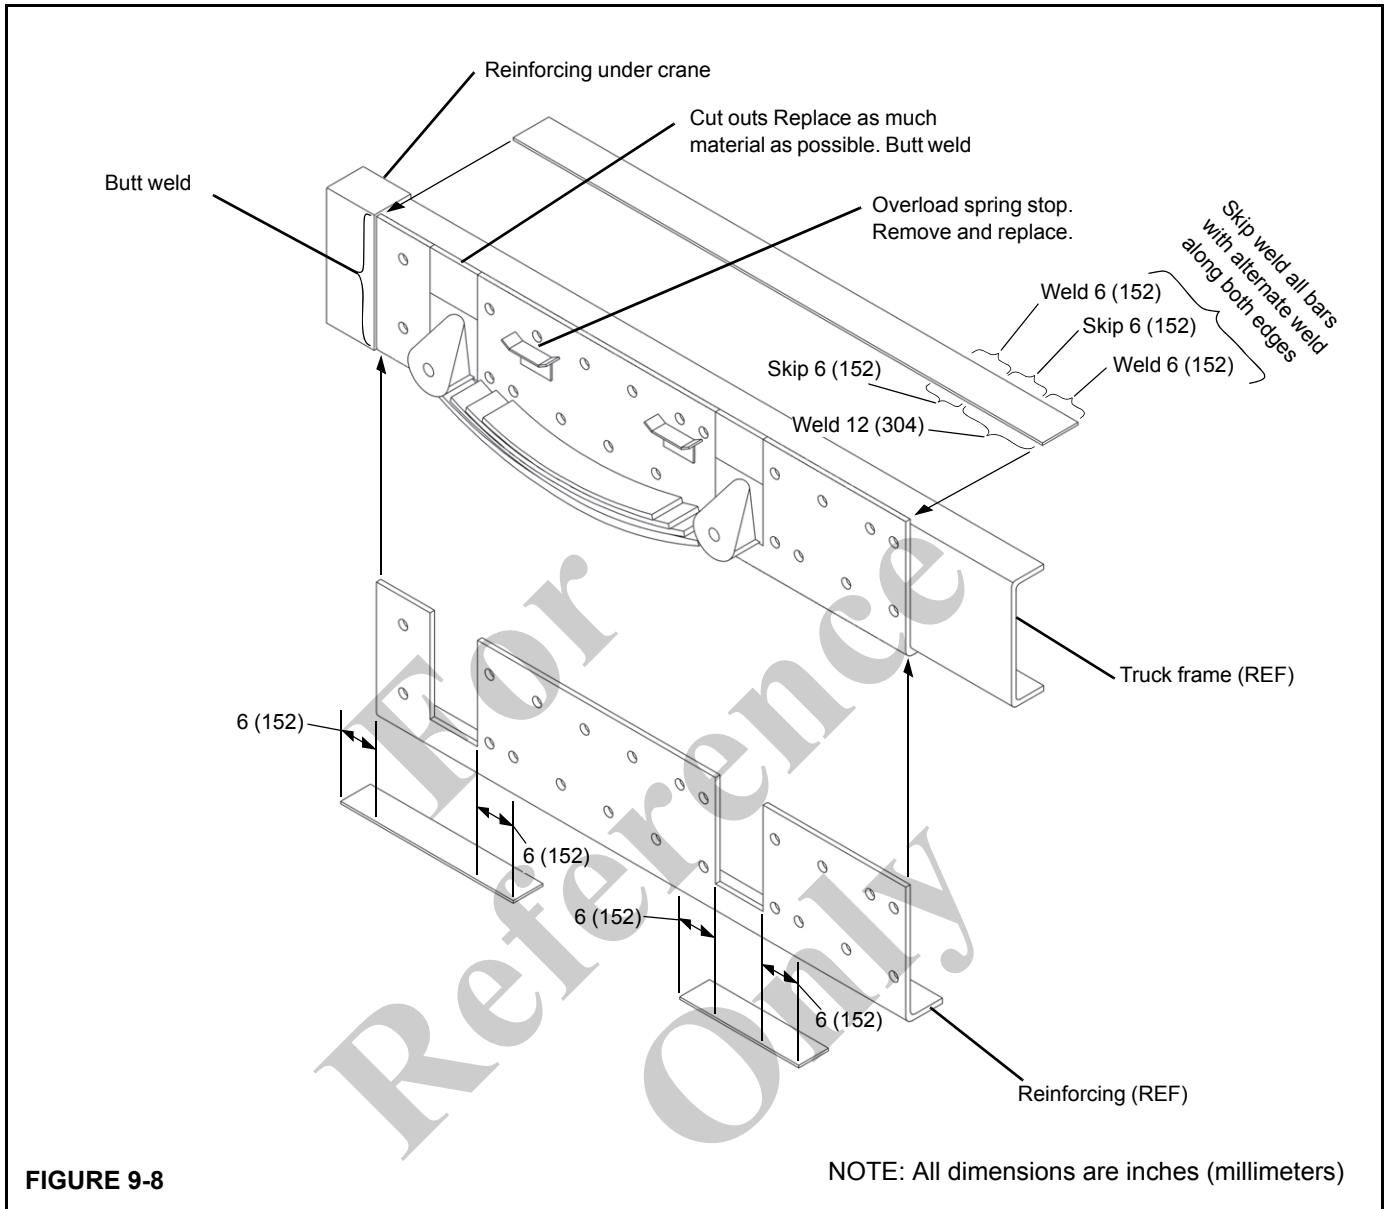

FIGURE 9-8
5. If the frame through the rear suspension does not meet the minimum specifications for RBM and section modulus, it can be reinforced by adding a reinforcing angle as shown in Figure 9-8. See Section Modulus Table B on page 9-9 for the required size of reinforcing. Strip all easily removable equipment from the frame through the suspension such as spring stops, etc. Butt the reinforcing angle up against the reinforcing forward of the suspension and mark the areas that will require cutting so that the angle will slide up around the spring hangers and against the existing truck frame and forward reinforcing. Torch out the marked areas in the long leg of the angle deep enough so that the lip of the angle can be slid up from the underneath the frame to contact either existing truck frame or spring hanger brackets (if they extend down below the existing truck frame). If reinforcing angle is to be welded to truck frame, cut out plug weld hole pattern as in Figure 9-6.